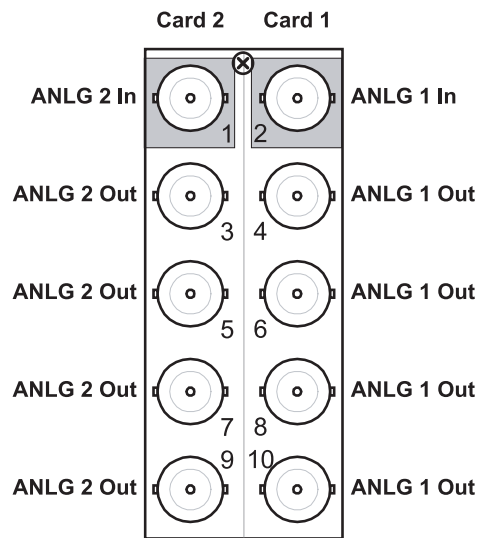

Figure 2.4 Cable Connections for the R2S-8707 Rear Module
- **8320AR-031** (R2S-8707) Split Rear Module — Each card occupies one slot and provides one analog video input, and four analog video outputs. Refer to **Figure 2.4** for cable connections.